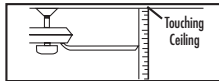
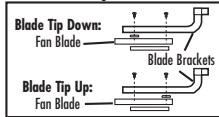

Figure 1
Figure 2
4. Most fan wobble problems are caused when blade levels are unequal. Check this level by selecting a point on the ceiling above the tip of one of the blades. Measure this distance as shown in Figure 1. Keeping measure within 3mm, rotate the fan until the next blade is positioned for measurement. Repeat for each blade. If all blade levels are not equal, you can adjust blade levels by the following procedure. To adjust a blade tip up, insert a washer (not supplied) between the blade and blade holder at the screw closest to the motor (Figure 2). To adjust a blade tip down, insert washer (not supplied) between the blade and blade holder at the two screws farthest from the motor (Figure 2).